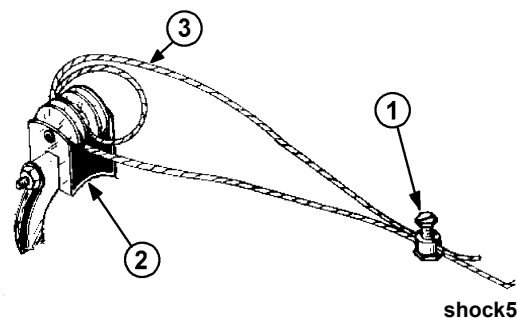

**Figure 55.**Unrolling the Cable
1. Unroll the bulk anti-roost cable. Note: If the cable is unrolled as shown in **Figure 55**, taking 5 loops of the coil with one hand, then changing hands to remove 5 loops as it is unrolled, it will lie flat during installation.